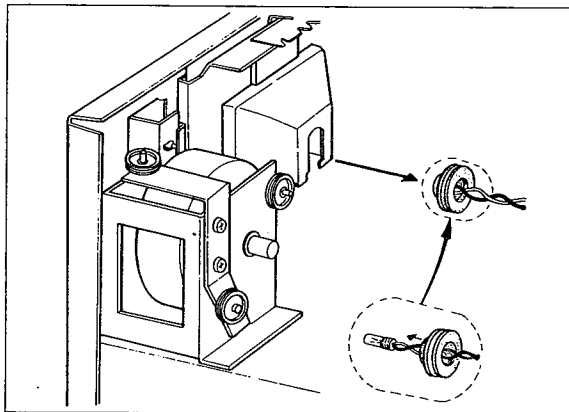

Fig. 2-13. Stereo lamp removal
1. Pull the lamp and rubber grommet from its holder with tweezers as shown in Fig. 2-13.